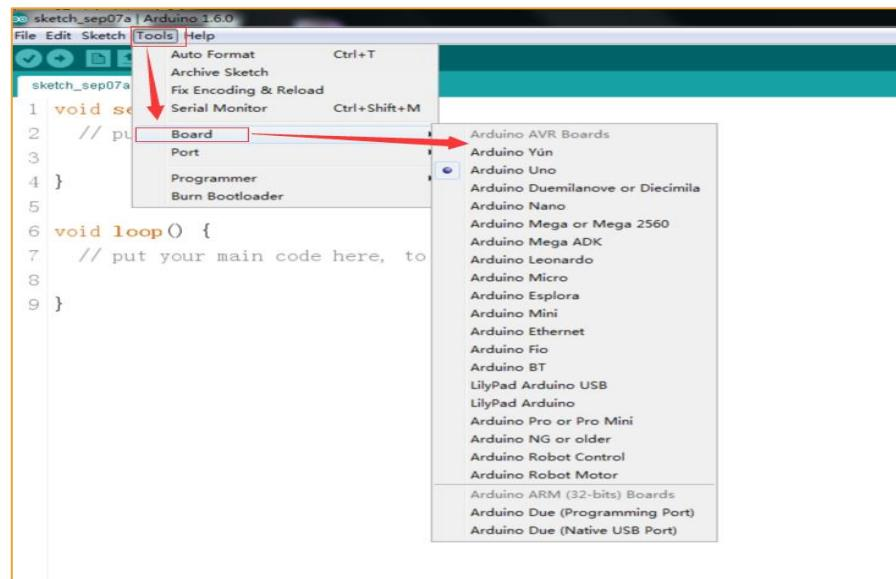
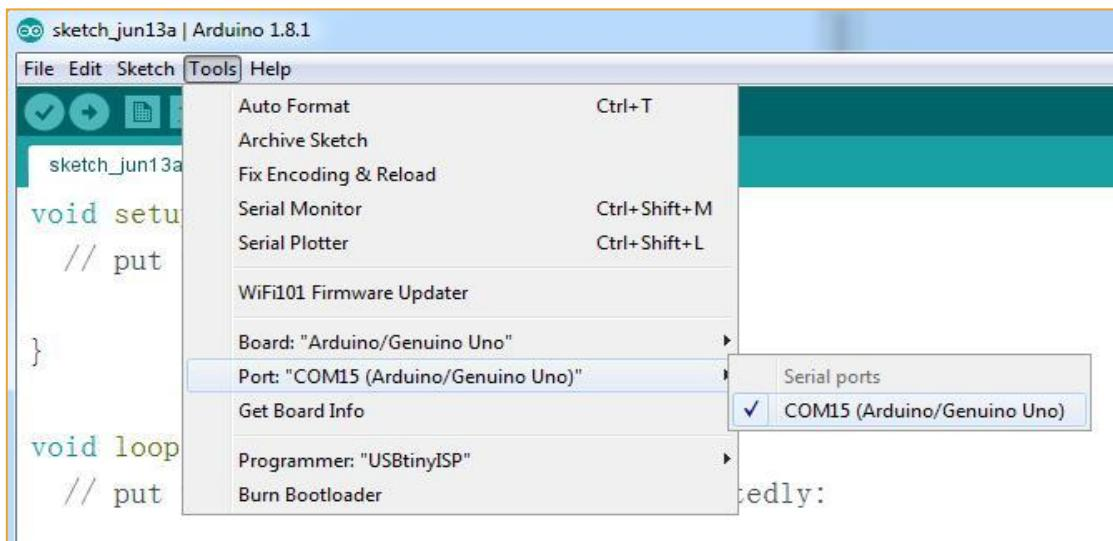

Figure 2-2-14 Tools interface
Figure 2-2-15 USB serial port selection
3、Click Tools, the interface shown in Figure 2-2-14 will pop up. Here we can see two options: Board and Port. In the board option, we can see the commonly used Arduino development board model, we only need to choose according to their own development board. In the Port option, the USB serial port is mainly selected, as shown in Figure 2-2-15. If you are not sure, you can check it in the "Device Manager" and select the corresponding COM port.